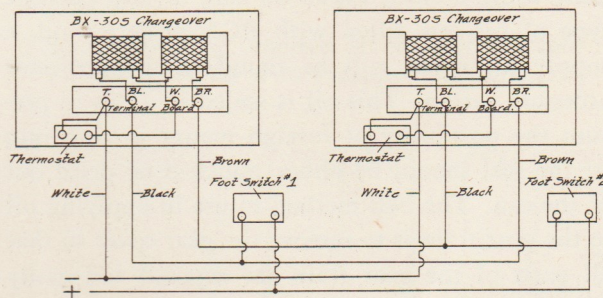

Figure 11—Wiring Diagram of MI-14313 Picture Changeover for Two Projector Operation
9. Tighten the adjusting screw on the top of the changeover until the shutter will not open when the footswitch is operated. Then loosen the adjusting screw slowly so that the shutter will open when the footswitch is operated. Do not loosen the screw enough so that the shutter opens with such force that it hits the top of the film trap casting, rebounds and partially closes the aperture. Figures 11 and 12 show the wiring and connections to the changeover units for two- and three-projector operation.